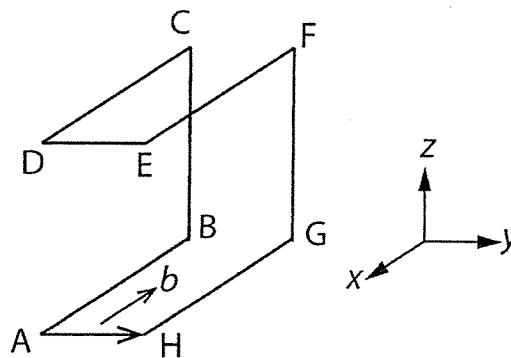

Figure 3 The schematic diagram showing a non-planar dislocation loop.
5. Figure 3 shows a non-planar dislocation loop whose Burgers vector is b . The slip planes can be XY plane and ZX plane. At this moment, all of the dislocation segments are parallel or perpendicular to the coordinate axes as shown in Figure 3. The segment labeled AH is a positive edge dislocation.